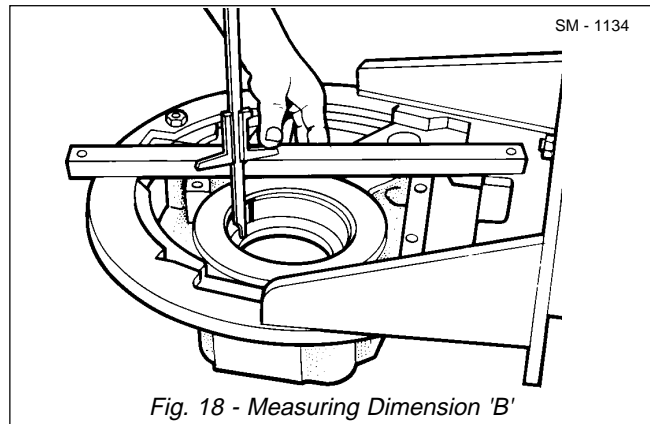

Fig. 18 - Measuring Dimension 'B'
2. Install bearing retaining bush (58) into countershaft case (49) until it is seated. Measure dimension 'B' from the flange face of countershaft case (49) to the bearing contact face using a straightedge and depth micrometer as shown in Fig. 18. e.g. 25.75 mm (1.00 in).